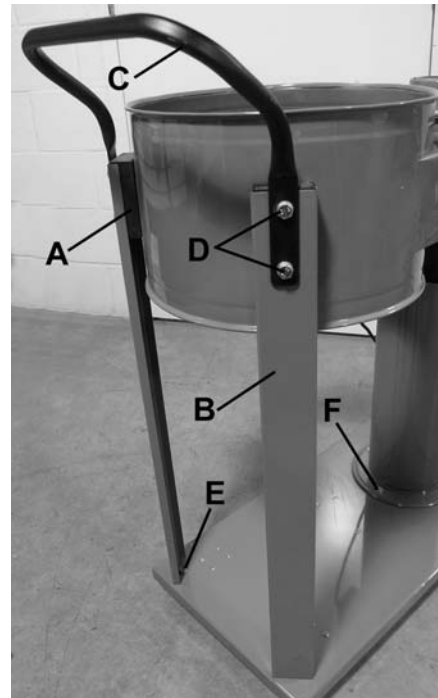

FIGURE 5
4. Now you must install the support blocks (A) Fig.5, 2 support legs (B) and transport handle (C) to the dust bag housing. Place support block, support leg and one end of the transport handle against housing and fix in place using 2 hex. bolts, washers (D) and hex. nuts (not shown). Repeat for second support leg.
5. Now you must install the motor & housing assembly and support legs to the base. Line up the markings on the column with the ones on the base and secure using four hex. bolts and four washers (F). Also fix the bottom of the support legs to the base using one hex. bolt and washer (E) for each support leg.